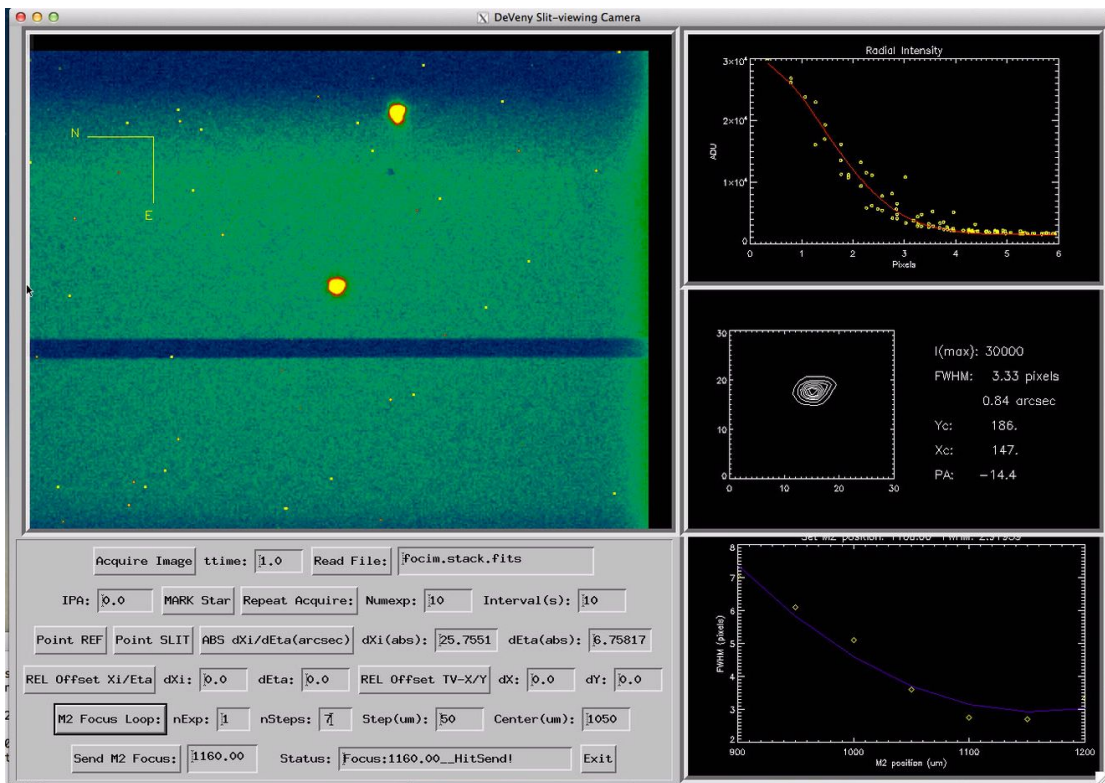

Figure 20. IDL slitview control GUI. A star can be seen at the reference location. In the right hand panel a contour and radial plot have been produced.
- 6) **Point REF**: Moves the telescope to put the star  $\sim 5$  arcsec above the center of the slit. A verification image is automatically taken following the offset. After pressing the Status field will change to say Markstar! and the cursor will change. A radial and contour plot will be generated (see Figure 20).
- 7) **Point SLIT**: Moves the telescope to put the star approximately at the slit center position. A verification image is automatically taken following the offset. After pressing the Status field will change to say Markstar! and the cursor will change. A radial and contour plot will be generated (Figure 20).